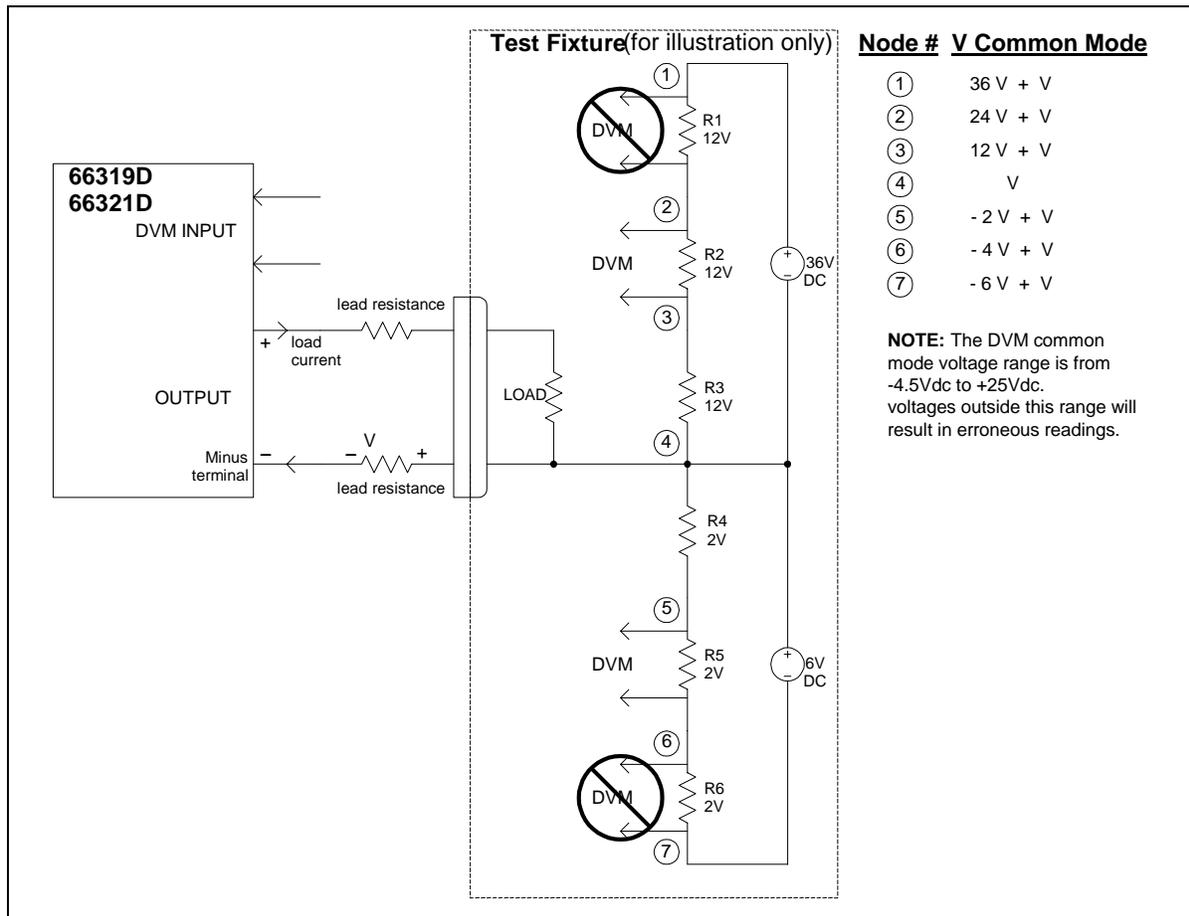

Figure 3-7. Measuring Circuits Not Powered by the Main Output
Because the measurement circuits of the DVM are internally referenced to the minus terminal of the main output, you must observe the following restrictions in order to guarantee accurate DVM measurements (refer to figure 3-7).
- ◆ You cannot measure voltages greater than +25 Vdc with respect to the negative terminal of the main output. A situation where this could occur is illustrated by R1 in figure 3-7, which has only a 12 Vdc drop across it but is 36 Vdc + V_{lead} with respect to the negative terminal of the main output.
- ◆ You cannot measure voltages less than -4.5 Vdc with respect to the negative terminal of the main output. A situation where this could occur is illustrated by R6 in figure 3-7, which has only a -2 Vdc drop across it but is -6 Vdc + V_{lead} with respect to the negative terminal of the main output.
- ◆ When calculating the common mode voltage between the point that you wish to measure and the negative terminal of the main output, you must also include any voltage drop in the negative load lead. For example, in figure 3-7, if the voltage drop in the negative load lead is 2 V, you would not be able to correctly measure the 12 Vdc drop across R2. This is because when the voltage drop in the load lead is added to the voltage drops across R2 and R3, the resultant voltage is 26 Vdc, which exceeds the +25 Vdc common mode rating of the DVM.